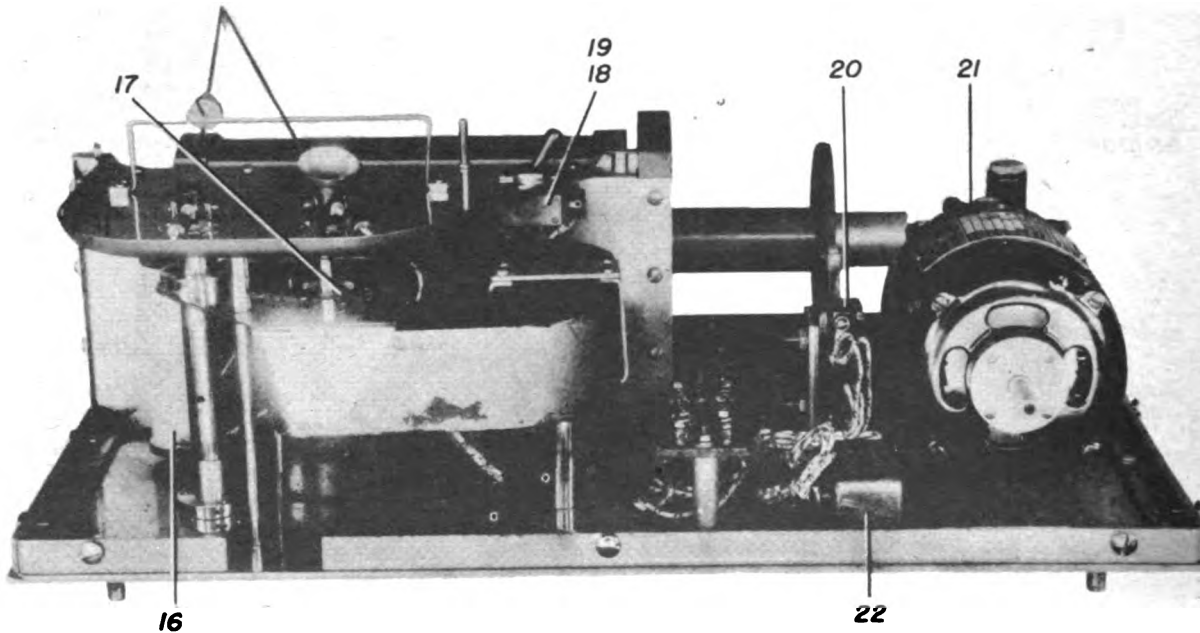

Figure 9—Recording Machine, Rear View
(7) One recorder mechanism, figure 9, which contains a small drum driven by a 1/75 horsepower synchronous motor, an indexing relay which drives the index pen, and a recorder pen. Also in the recorder mechanism is a cam actuated micro-switch which stops the rotation of the drum in a position that simplifies the changing of the recorder paper. The recorder is controlled by a switch mounted on the recorder mechanism.